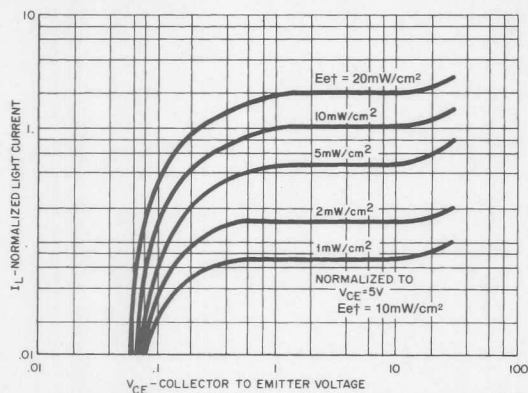
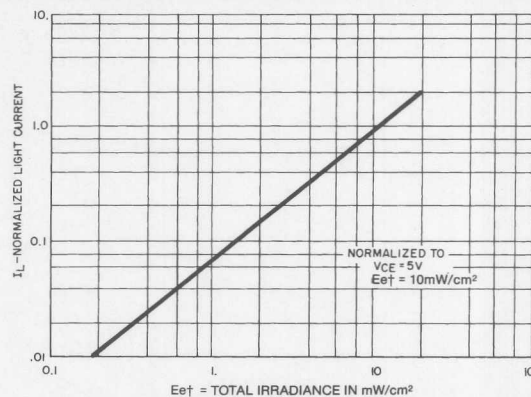

Fig. 1. Light Current vs. Collector to Emitter Voltage ST1082
Fig. 2. Normalized Light Current vs. Radiation ST1087
- Figure 1 and figure 2 use light source of tungsten lamp at 2870°K color temperature. A GaAs source of 3.0 mW/cm^2 is approximately equivalent to a tungsten source, at 2870°K of 10 mW/cm^2 .